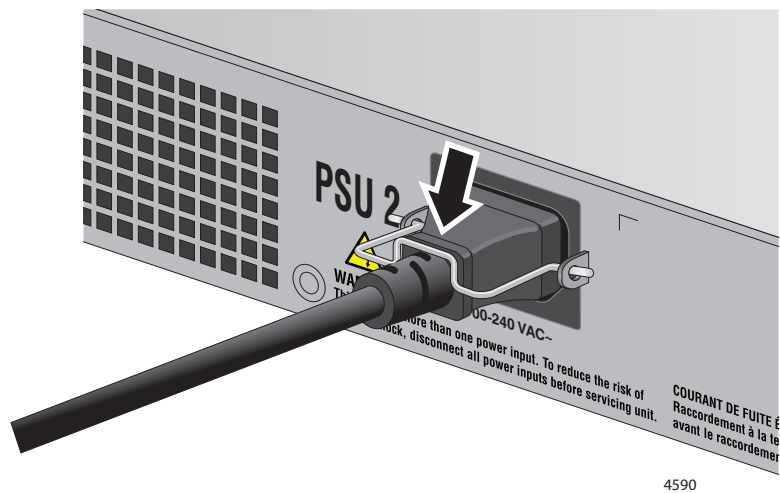

Figure 62. Lowering the Power Cord Retaining Clips
3. Lower the power cord retaining clips to secure the cords to the switch. Refer to Figure 62.